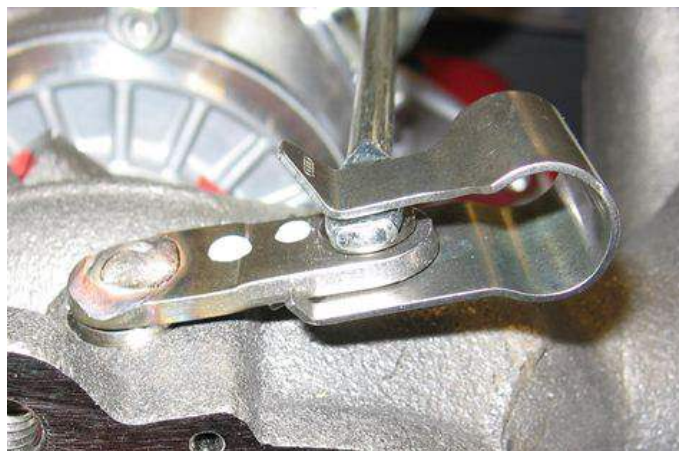

**Figure 5.** Correctly-fitted clip.
5. After fitting the spring clip, check for correct fit (Figure 5).